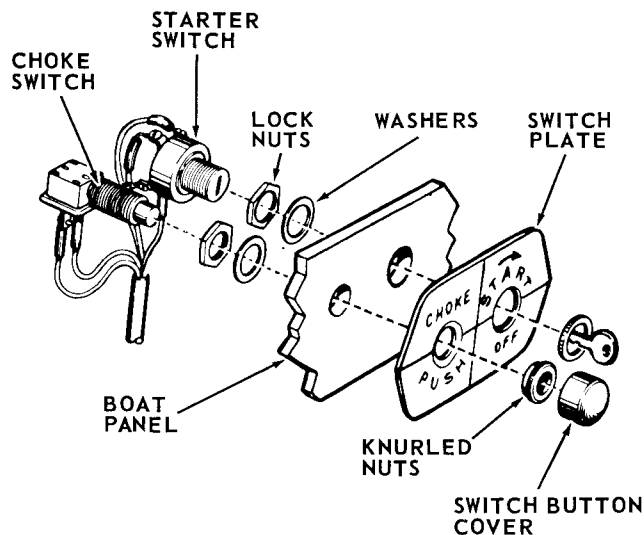

FIGURE 5
2. Remove choke button cover and knurled nuts holding switches. (See Figure 5).